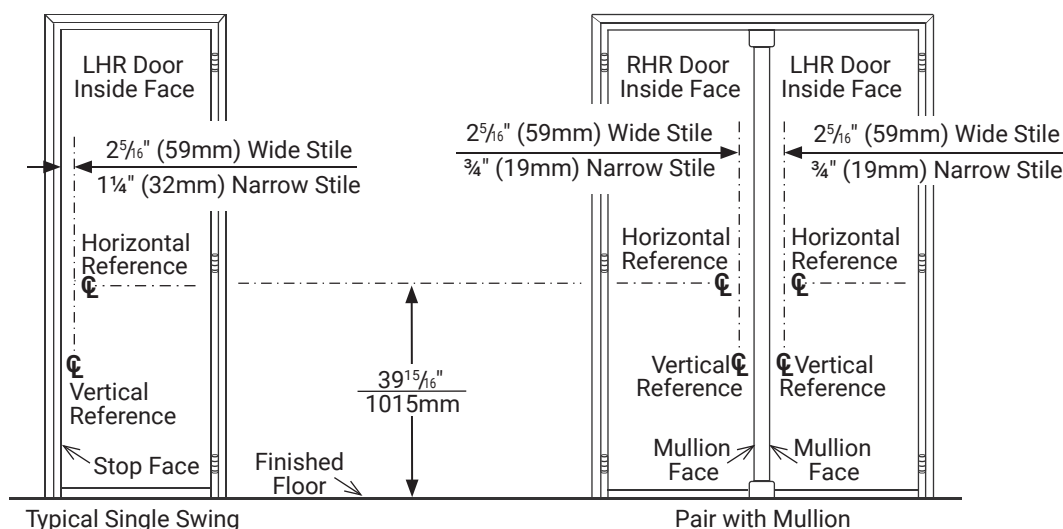

Figure 2: Sample Door Layouts
1. With door closed, locate and mark horizontal centerline & vertical centerline as shown in Figure 2.